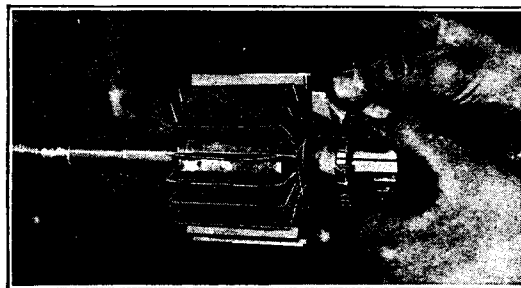
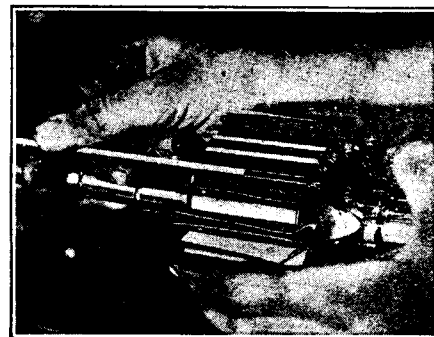
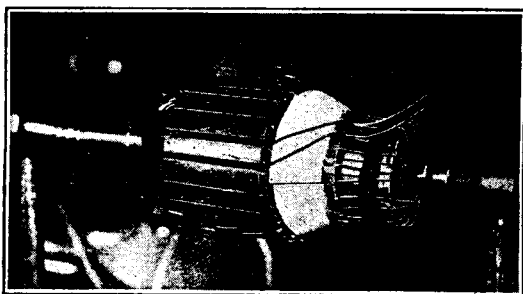
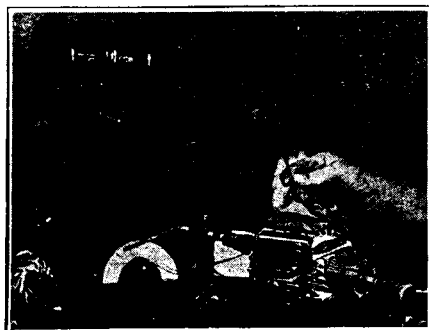

Figure 1
Figure 2
Figure 3
Figure 4
Next remove all 4 field coils. Use No. 18 P.E. wire, two strands in hand and wind 4 field coils to same size and shape as coils just removed. Wind these coils carefully, winding 57 turns per coil. Tape, shape, then varnish. Connect all field coils in parallel, see Fig. 2 and "Schematic Connection Diagram." The two main brushes are only brushes used, thus eliminating control brush. Connect one field lead to generator terminal and other field lead to main ungrounded brush. Other main brush is already grounded. Be sure to use best brushes obtainable. Connect 6 volts to generator frame and generator terminal. Polarity has no effect. If motor runs in wrong direction, reverse the field leads. Lubricate as you do car generator.
When winding an armature, the job can be simplified by mounting the armature into a rack such as shown in Fig. 4. A rack of this nature can be easily constructed of wood by having the upright pieces mounted on a solid base and using wood screws or nails to form the points which fit into the center holes in the ends of an armature shaft.
The first step after the armature has been stripped is to test each bar to see that there is no short between it and the bar on either side of it or to the shaft. This can be done by means of the lamp test as described above. If any shorts or grounds appear they will have to be cleared by means of scraping away any foreign substances from between the bars and the shaft. If this cannot be done, it will be necessary to replace the commutator. Next, insulate that portion of shaft between the core and the commutator by means of adhesive tape or gummed paper as shown in Figure 1. This figure also shows the end laminations and armature insulation paper in place. Figure 2 shows an advanced stage in winding, with several coils wound, also showing some of the slots closed by means of the wooden wedges. Figure 3 shows the slots all closed. Note carefully how the tail end wire of each coil is folded back to
Where it is necessary to wind with two wires in each coil, such as is done on the Dodge 49 bar job and all Delco-Remy generators, Fig. 4 shows this work simplified by means of using two spools to take the wire from. This can also be done by having two wires wound on one spool but care must be used to see that each wire is followed through carefully as the wires should not be mixed; see instruction sheet of the armature to be wound.
The coil consists of a primary winding of 238 turns tapped at the 238th turn, and a secondary of 105 turns tapped at the 60th turn. Prepare a winding spool of hard wood, to the dimensions given in Fig. 1. Fasten the spool end (1) to the large end (X) of the spool drum (2) with flat head wood screws, and fasten spool
end (3) to the tapered end (Z) of the drum with round head wood screws and washers. Lay an 18" piece of stout string along each of the four sides of the spool drum, allowing the ends to project equally over the end pieces. Wrap a layer of .010 armature paper over the strings and around the drum, then tie the paper in place with a few turns of linen thread. Fasten the ends of the string out of the way by means of small tacks on the outsides of the spool ends. (See Fig. 1.)
Build up the iron core as in Fig. 2. Requires 17 to 18 lbs. of 26 ga. silicon steel. All core dimensions are given in Fig. 2 and Fig. 3. In Fig. 3, "First Layer," and "Second Layer," explain the method of arranging the alternate layers. Stagger all joints as shown in these diagrams, and be sure to fit all joints accurately. Tight joints in the core irons will prevent power loss and overheating. Use sufficient metal in the core to give a stack $1\frac{1}{4}$ " thick when compressed. A total of 93 pieces to each of the four sections.
Form the four core clamps according to Fig. 4. Carefully clamp one end of the core, drawing the $\frac{1}{4}$ " bolts up snugly enough to hold the core while the clamps are put on the other end. Now tighten both clamps, and wrap one layer of armature paper on the core leg that is to hold the coil. Over the paper, wrap one layer of 1" "Empire Cloth" or varnished cloth, starting at the bottom, and spiraling toward the top. Allow it to overlap a little less than half its width. A little of the insulating varnish applied to the under side of the cloth as it is wound will hold it. Trim away the surplus cloth and allow the varnish to dry. In the centers of two 5" squares of $\frac{1}{4}$ " fiber (11, Fig. 6) cut openings one and thirteen-sixteenths by two and one-sixteenth inches. Take off the top core clamp and carefully remove the end section of the core as shown in Fig. 4. Slip one of the fiber squares over the cloth covered core leg, slide
Lay out and drill the terminal panel made from $\frac{1}{4}$ " tempered pressed wood obtained from lumber yard. Form loops in the ends of the secondary leads by wrapping them around the brass bolts forming the secondary terminals. Run solder over these loops, Fig. 4. Cut the brass buss bar in the double outlet, removing enough of it so that no short will be possible between the high and low primary leads, which are connected to the two resulting terminals as shown in Fig. 6. The primary common lead (4) is connected to the brass buss as is, thereby making contact with both outlets, Fig. 6. Connect the secondary leads to their proper terminals, Fig. 6, and label them. Bolt the panel in place on the core clamps.
The core, Fig. 1, compresses to a thickness of $2\frac{1}{2}$ " and is built up to the specifications in Fig. 2.
The coil is wound on a spool (Detail 3C). Lay 24" pieces of strong string along the four sides of the spool drum, and over them a double layer of armature paper (.010) is bound in place with thread. (Fasten the ends of the string out of the way by means of small tacks on the outsides of the spool ends.) Over this paper, wind the primary (Fig. 4 and Fig. 3 key), tapping the winding at various number of turns as indicated. All terminal leads (1), (2), (3), (4) and (5) are of No. 8 wire. They are all 12" long and are labeled. Taps are bound to the main wire with fine copper wire, the joints soldered and taped. Fasten lead (5) with tape and wrap the primary with two layers of armature paper and one layer of varnish cloth .007 thickness, bound with thread.
Fig. 3 shows the completed transformer. Detail 3A shows the construction of the core clamps and the terminal panel ($\frac{1}{4}$ " or $\frac{1}{8}$ " tempered pressed wood, obtained at lumber yard) which mounts to clamp (6). Mount the clamps and panel.